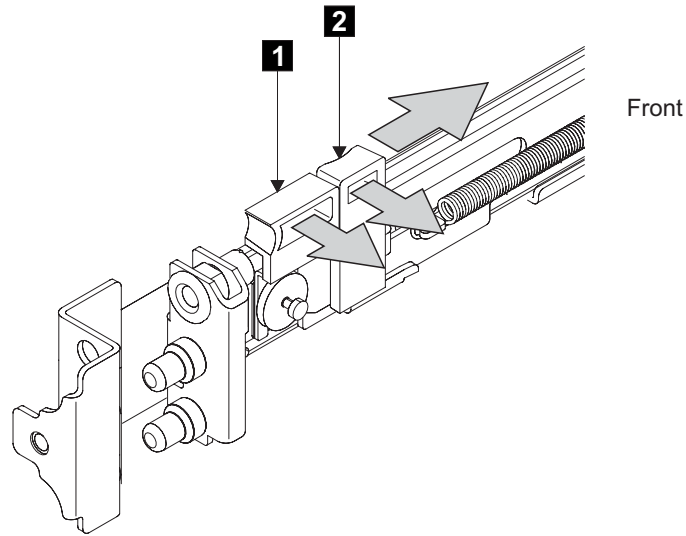

Figure 28. Opening the front latch-lock carrier assembly
5. Gently push the latch lock **2** (Figure 28 on page 31) away from the rail as you move the latch lever **1** towards the far end of the rail. The latch-lock carrier assembly slides against the spring tension.